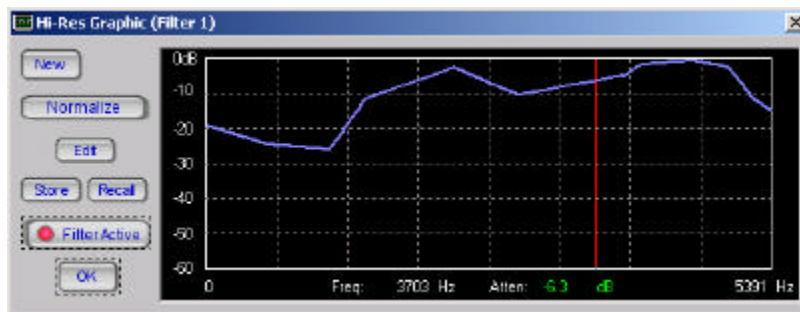

Figure 4-57 Completed Hi-Res Graphic Edit
9. Complete drawing the new portion of the filter curve as shown below (Figure 4-57) by drawing points all the way to the right edge of the edit region: